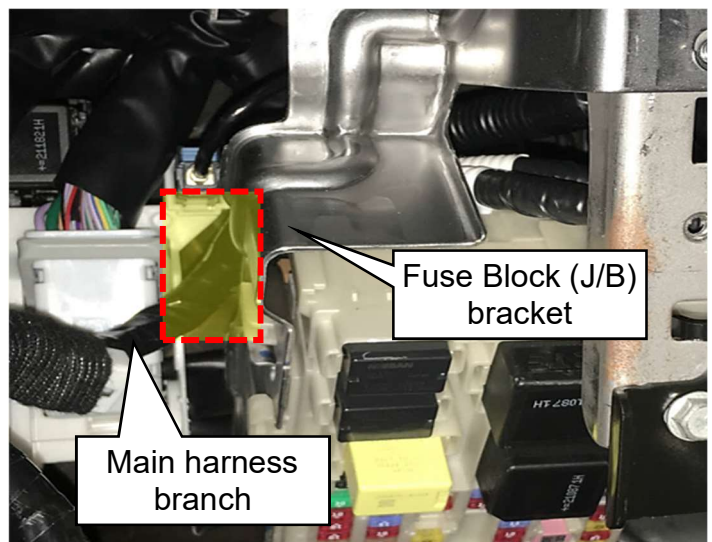

Figure 8
8. Inspect the harness branch shown in Figure 8 for cut (separated) or exposed wires (missing wire insulation, bare wire visible).